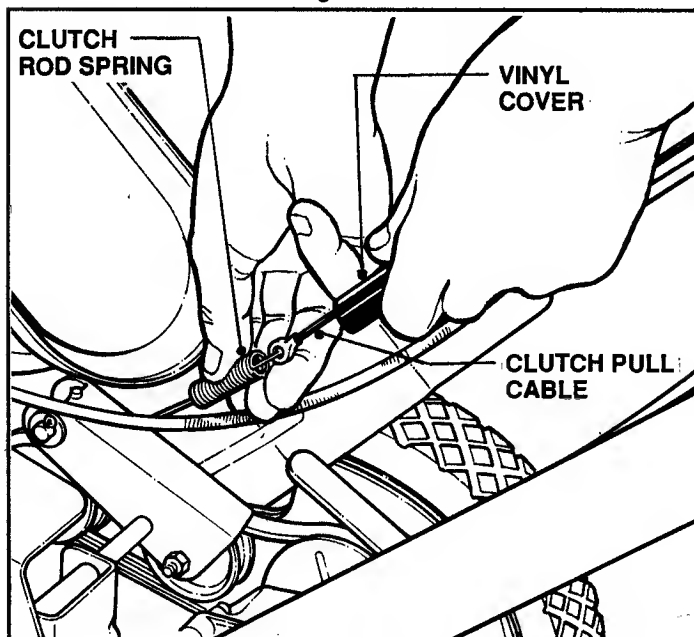

FIGURE 2.15
1. Adjustment of the clutch rod tension is made at the clutch rod spring, located under the vinyl cover on the clutch pull rod. See Figure 2.15.